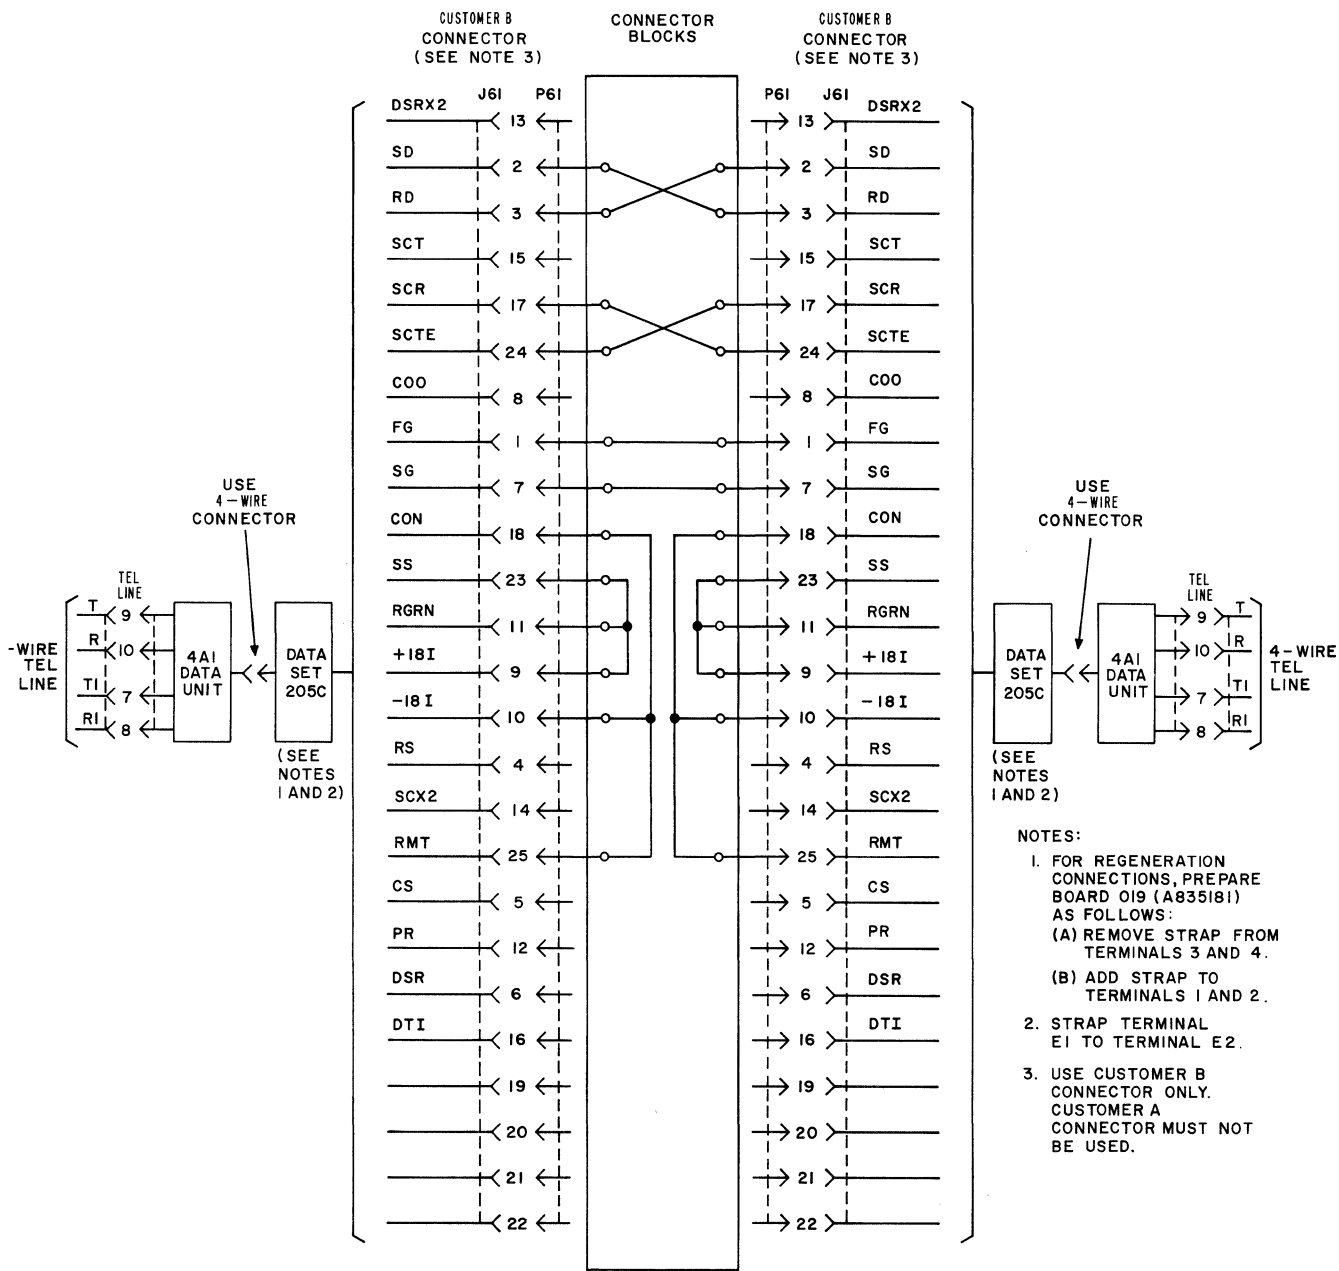

Fig. 1—Regeneration Connections at Connector Block
3.03 When required, the Data Set 205C2 can be interconnected with a second Data Set 205C2 to make a regenerative repeater. Interconnections between the two data sets are established through CUSTOMER B interface connections as shown in Fig. 1.